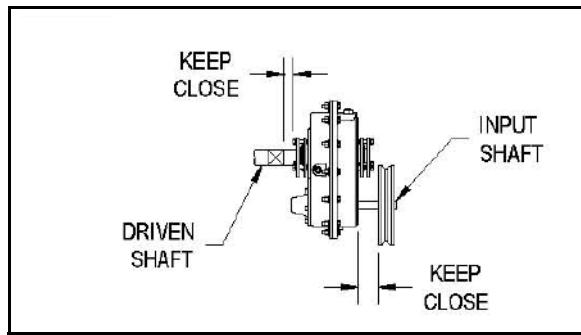

Figure 3.7 Reducer and Sheave Installation
4. Install sheave on input shaft as close to reducer as practical. (See Figure 3.7)